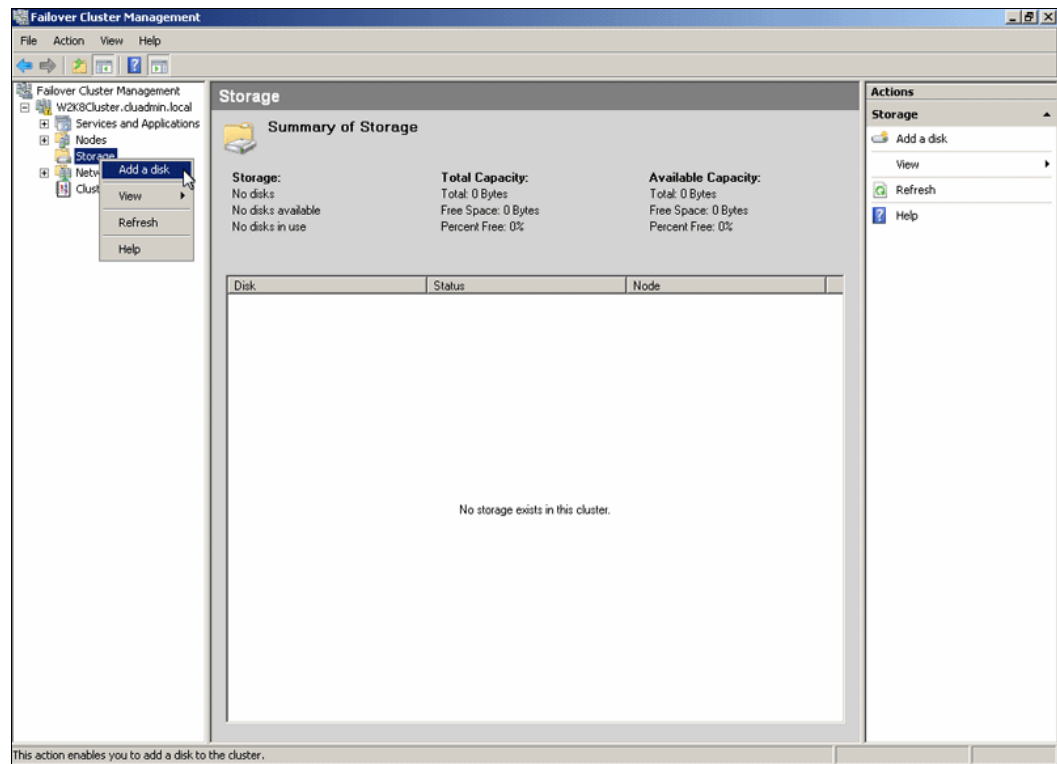

Figure 19-19 Add a Disk
1. Add a Disk by selecting the **Storage** in the Failover Cluster Management window as shown in Figure 19-19.